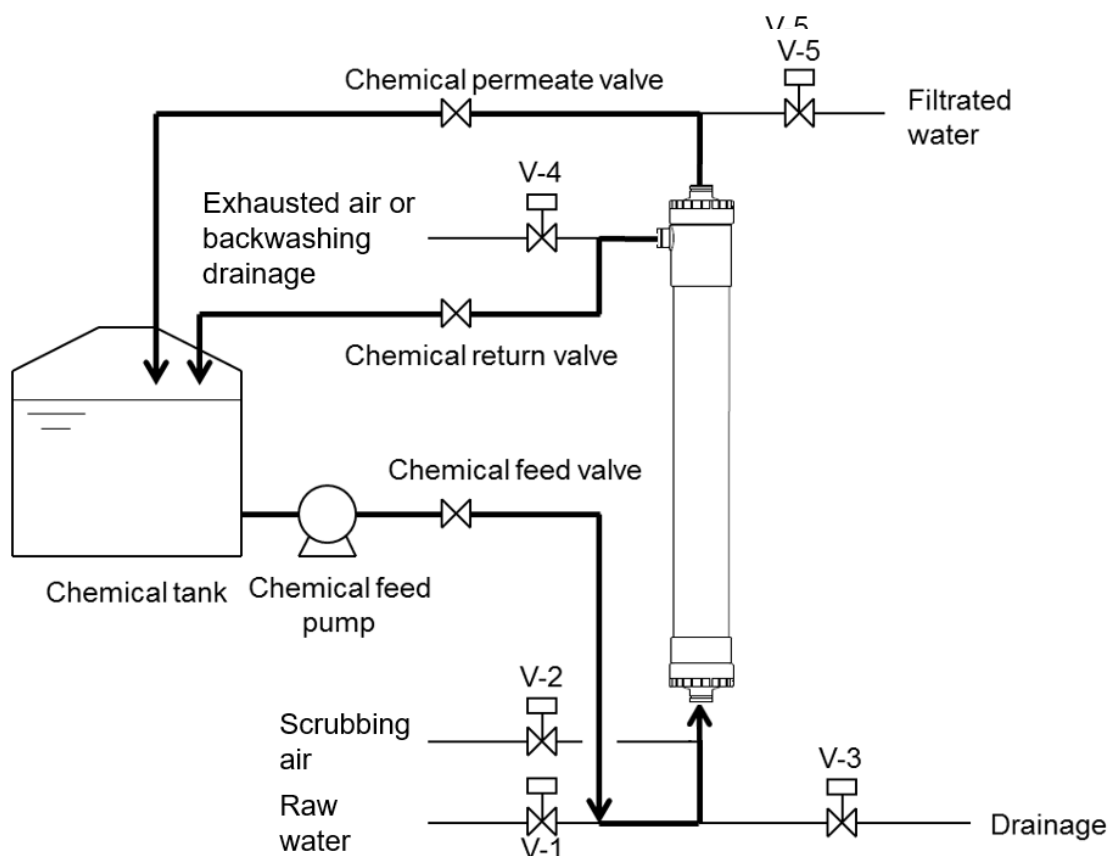

Fig. 9. Flow diagram for chemical cleaning
- (1) The flow diagram for cleaning simultaneously both outer surface and inside of hollow fiber membranes is shown in Fig. 9. The flow diagram can be changed case by case. Please contact us for further information if necessary.
- (2) Open the chemical return valve and then open the chemical feed valve.
- (3) Run the chemical feed pump to start for chemical circulation. Then, open the chemical permeate valve to let the chemical pass through the membrane.
- (4) Circulate the chemical for a fixed time.
- (5) Stop the chemical feed pump.
- (6) Drain the chemical and rinse the cleaning line and the module thoroughly with product water.
(7) The standard conditions for chemical cleaning are shown in Table 5.